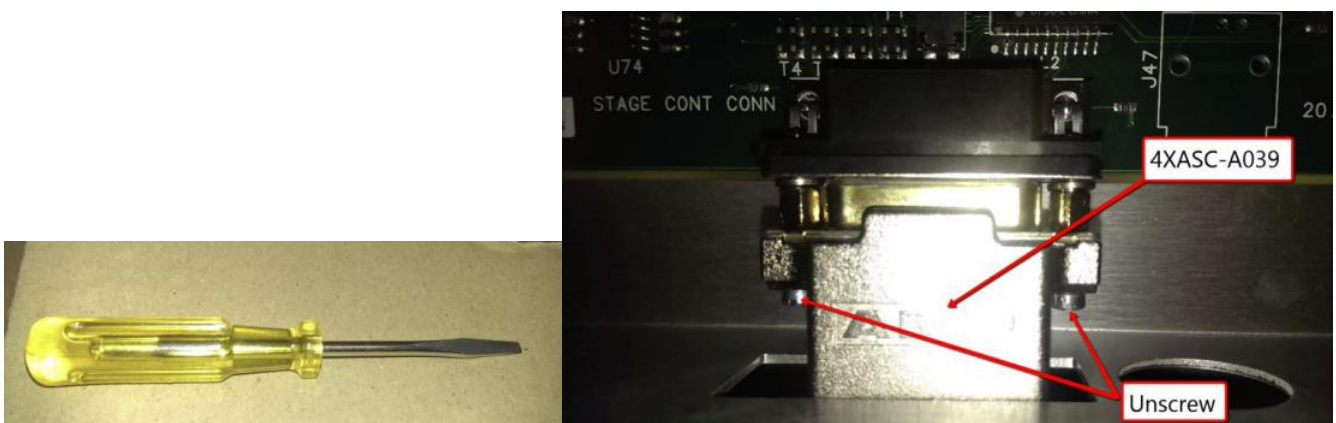

Figure 5 Connector removal
- Use a short slotted screwdriver unscrew and disconnect the CABLE, TRIGGER IO, DBN 15 (P/N, 4XASC-A039) cable from Trigger Board as Figure 5.